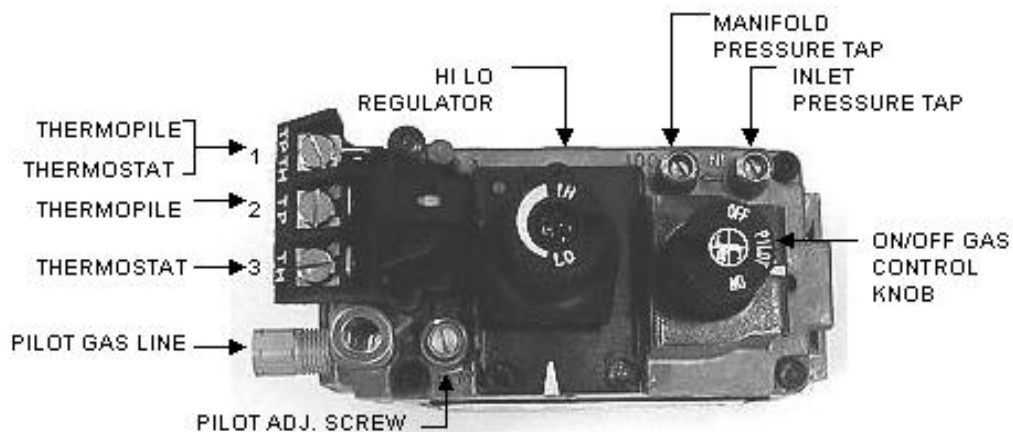

Figure 7: Pressure Test Ports
* Manifold pressure must be taken at the outlet "manifold" tap and inlet pressure at "inlet" tap with the burner operating by a qualified installer (see Figure 7: Pressure Test Port).